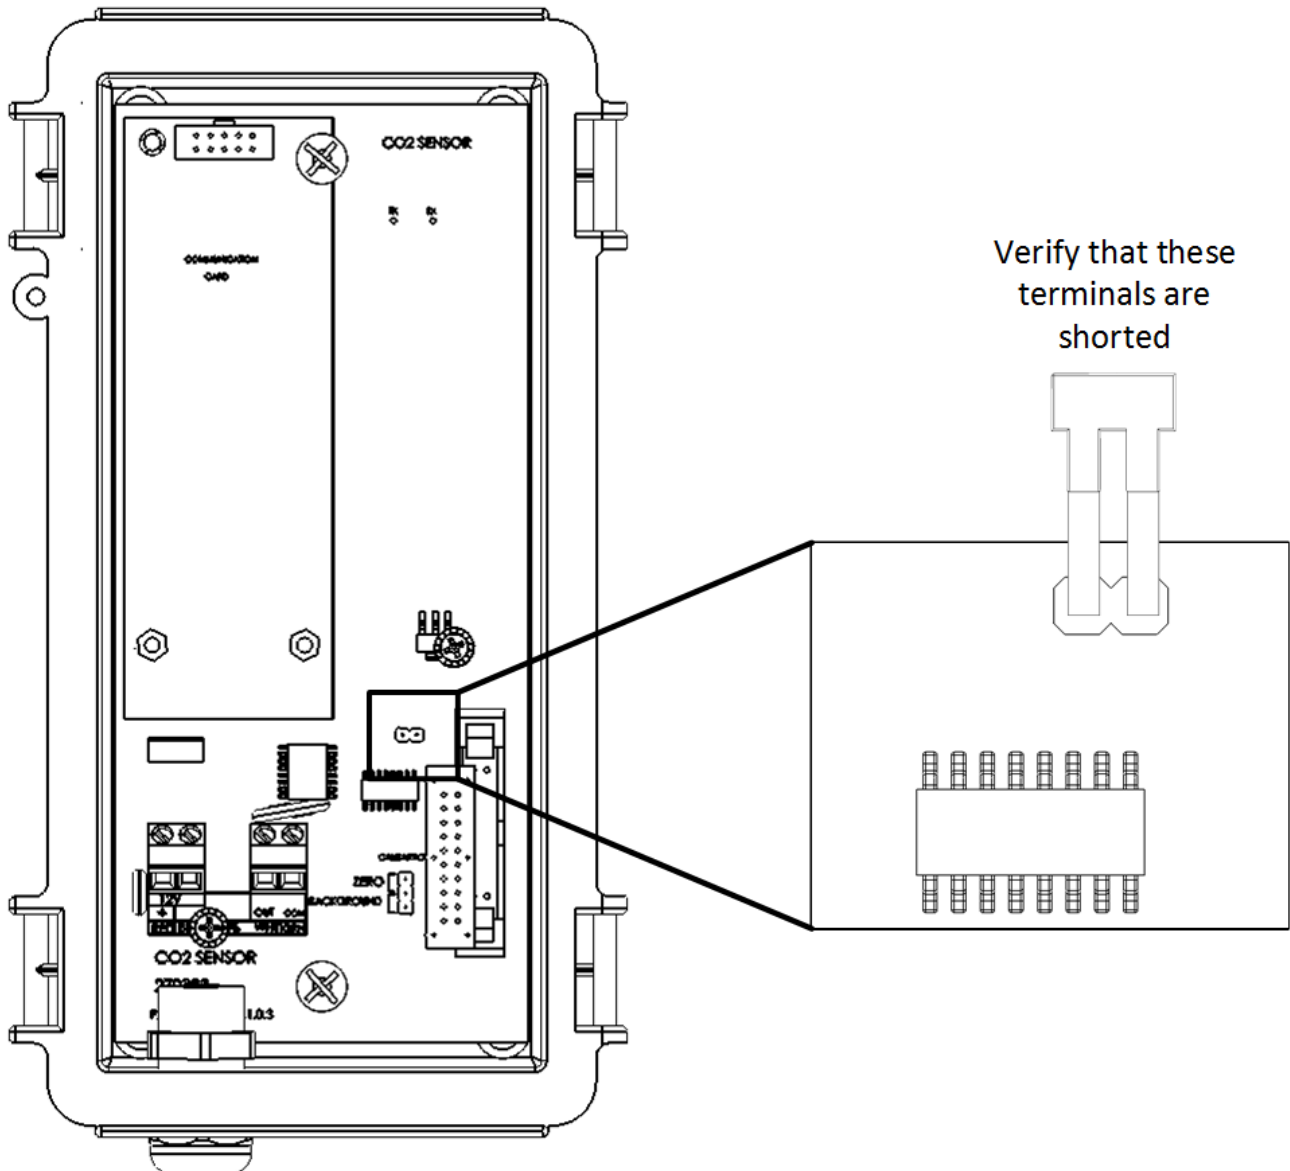

Figure 11: J2 Jumper Shorted
- In the CO2 sensor, verify that the J2 jumper is shorted. Refer to Figure 11.